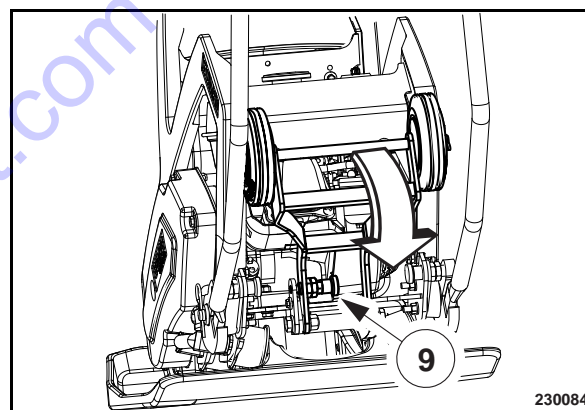

Fig. 35
- Pull out and turn the locking bolt (9) (Fig. 35).